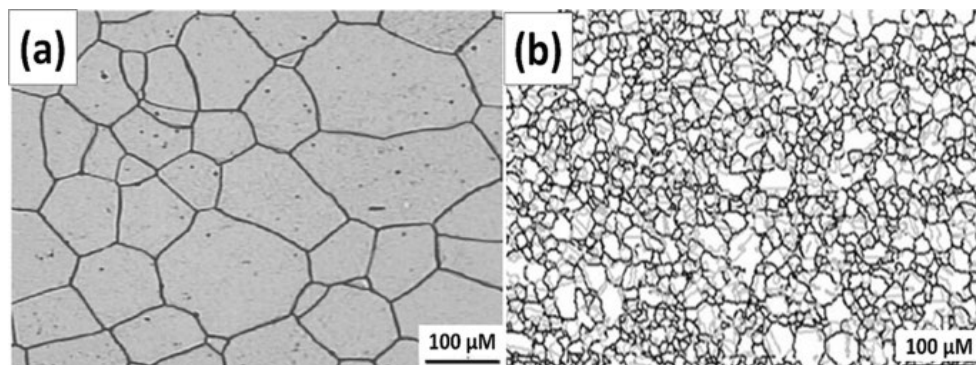

Figure 5 / *Rajah 5* : Coarse grain structure (a) and Fine grain structure (b) / *struktur butir kasar (a) dan struktur butir halus (a)*
- (iv). Figure 5 shows coarse and fine grain structures. Explain why grain boundaries are also imperfection in solids and does it affect property of materials?